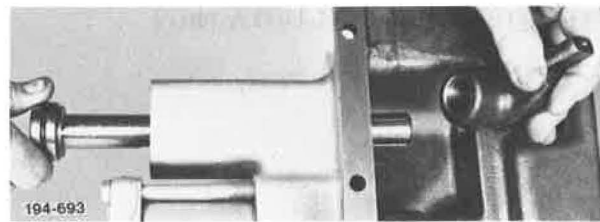

Figure 5-328. Removing Shift Rail and Shifter
5. Slide reverse shift rail rearward out of cover, and, as it moves, remove reverse shifter through bottom opening. See Figure 5-328.